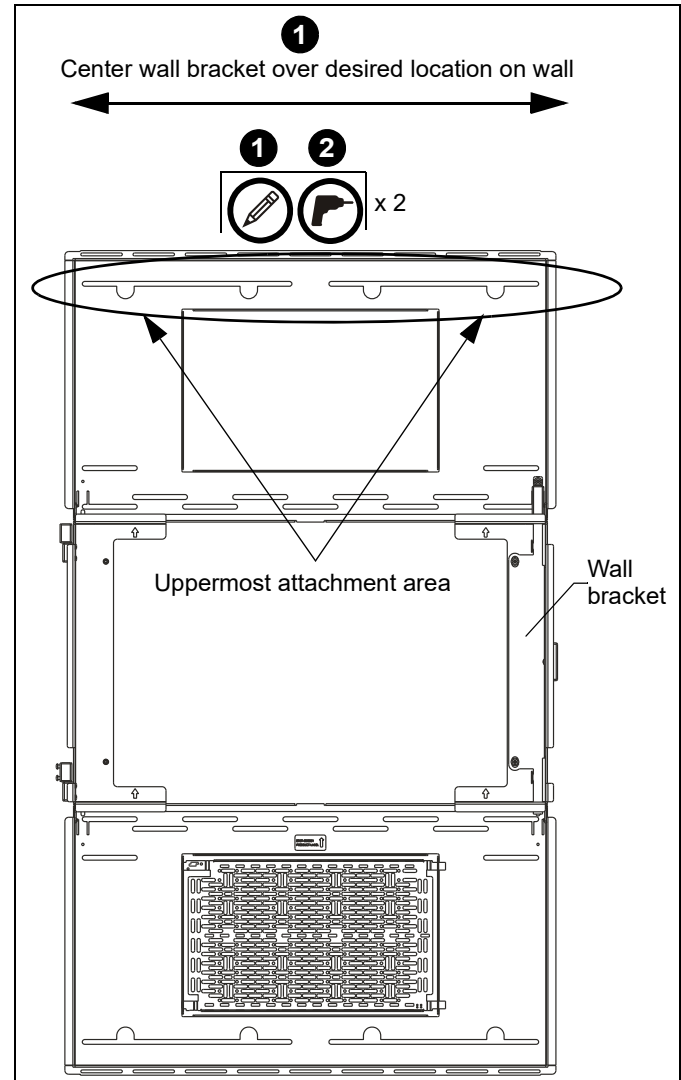

Figure 3
1. Determine the horizontal center of the wall bracket, and where it should be located on the wall. (See Figure 3)
- For wood or steel stud walls, use a level and mark the two uppermost locations over studs for attachment a minimum of 16" apart and a maximum of 24" apart. (See Figure 3)
- For concrete walls, use a level and mark the two uppermost locations for attachment as far apart as possible to provide maximum stability. (See Figure 3)
2. Drill one pilot hole (see Table 1 for size) at both locations marked in Step 1 (See Figure 3) and follow fastener information (appropriate for wall type) located in Table 1.